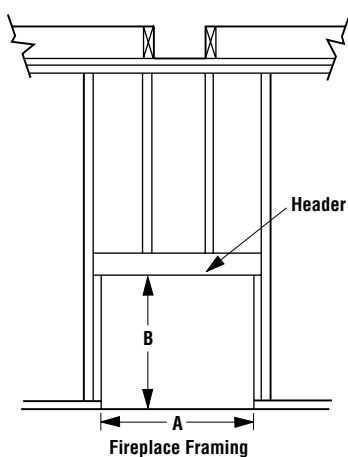

Figure 6
Step 1. Construct the Appliance Framing - Frame appliance enclosure as illustrated in **Figures 6 through 9 on page 6.**